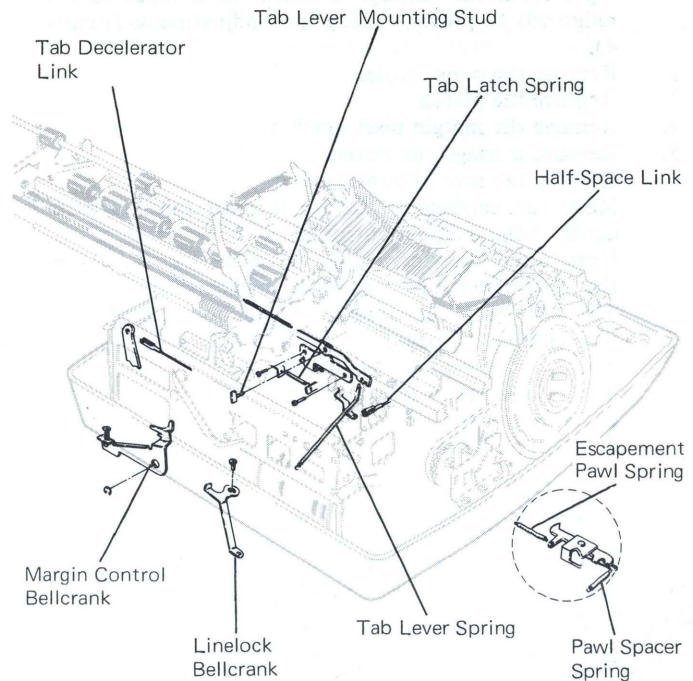

Figure 6 – C1, D1 Escapement Pawl Bracket Removal
3. Remove the margin control bellcrank (Figure 6).